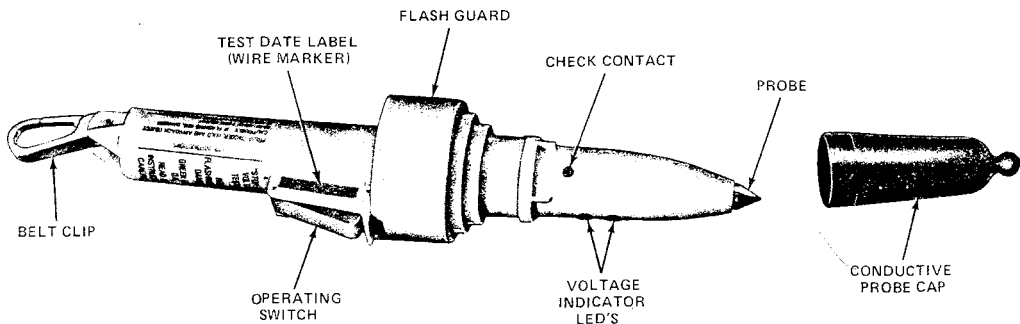
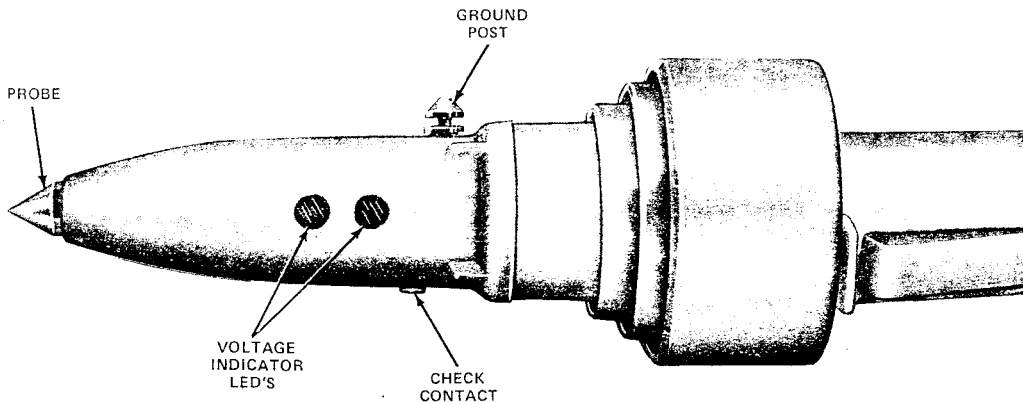

Fig. 1 — 188A Test Set
Fig. 3—Voltage Indicators
1.03 DANGER: Do not touch the energized object. The 188A test set (Fig. 1) is a high impedance voltage detector. It will identify voltages over 50 volts ac and 6 volts dc, regardless of current potential. The upper voltage limits that it is designed to test for are 20,000 volts 60 Hz ac and 2000 volts dc. At frequencies other than 60 Hz, the test set is less sensitive to lower frequencies and more sensitive to higher frequencies. The test set indicates when a potentially hazardous voltage is present by means of a flashing red indicator (LED). It does not indicate the actual voltage. When the test set indicates that a potentially hazardous voltage is present, the technician should notify the appropriate management center immediately (Part 10). The supervisor will determine if the indicated voltage is hazardous.
3.01 The 188A test set is a yellow plastic two-piece unit that weighs approximately 1 pound. The front housing contains the carbide probe tip and the light emitting diode (LED) voltage indicators (one green and one red), a ground post, and a check contact (Fig. 3). The rear housing unscrews from the front and contains a belt clip and operating switch. A colored wire marker is applied to the left gusset of the operating switch. The date that the test set was last tested with the 1188A test set is written on the wire marker (Fig. 1). The flashguard is an integral part of the rear housing. Required checks before use and instructions for use are printed on a label and affixed to the handle portion of the rear housing. ♦
3.04 Conductive Probe Cap: The conductive probe cap (Fig. 1) provides protection from the sharp tip of the probe. When placed on the handle (clip end) of the 188A test set, it provides the attachment knob for the W1BU ground cord and a conductive surface for the hand of the user.